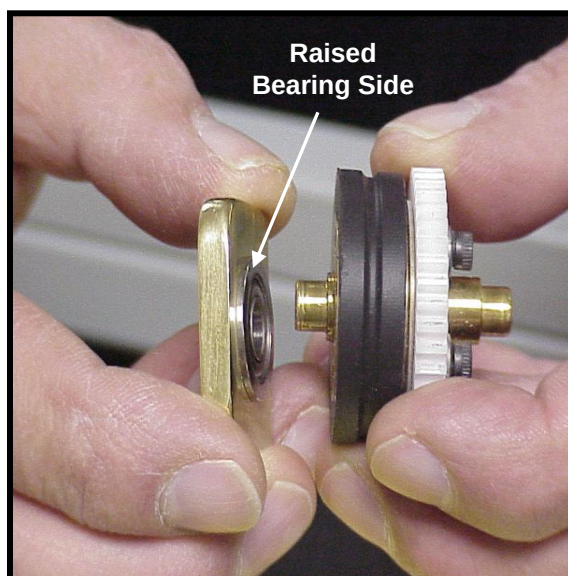

Figure 44
13.5.2.10 Slide the Drive Wheel-side Bearing Hanger back onto hub shaft with the raised Bearing pointing inward toward the Drive Wheel. **See Fig. 44.**